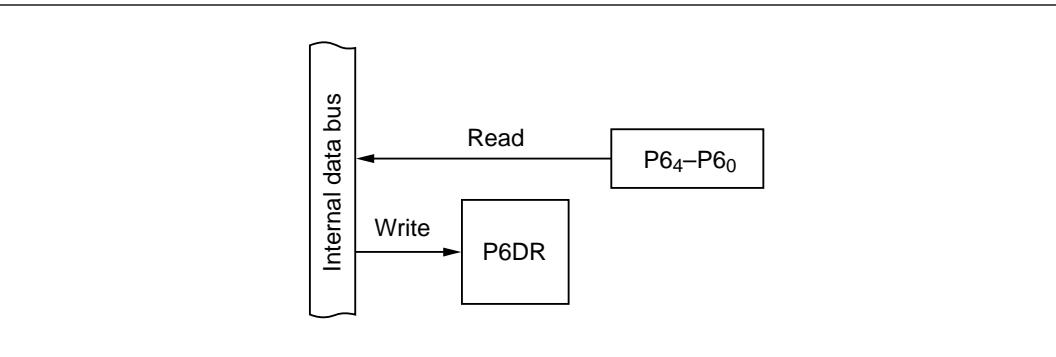

Figure 10-36 Input Port (Modes 1 to 7)
(1) Input Port (Modes 1 to 7): Figure 10-36 shows a block diagram illustrating the general-purpose input function. Table 10-28 indicates register read/write data. Values written in the port 6 data register (P6DR) have no effect on general-purpose input lines. When read, P6DR returns the value at the pin.